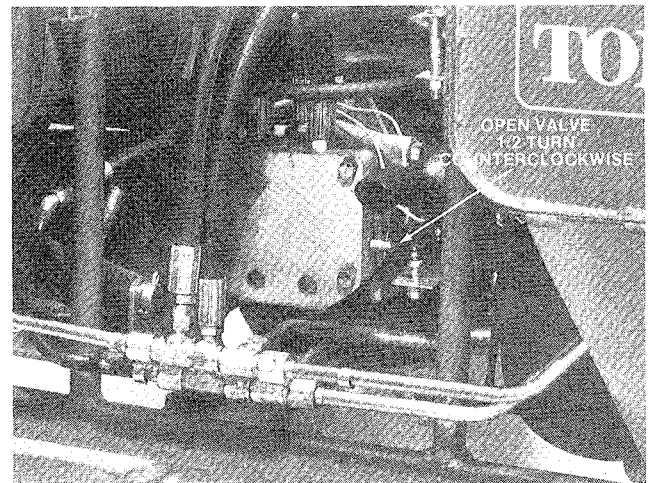

Figure 3
1. Rotate by-pass valve 1/2 turn counterclockwise (Fig. 3).